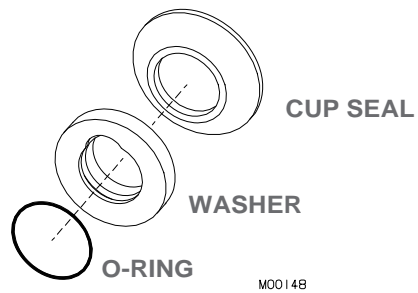

Figure 6-3 Shaft Seal
7. Remove the handle pin (9), handles (11), plungers (4) and nozzles (12) from the dispense head.
8. Remove O-rings (3) from the dispense head and O-rings (5) from the plungers (4).
9. Remove the cup seals (figure 6-3) and O-rings from the plastic washers on the shaft seal assemblies.